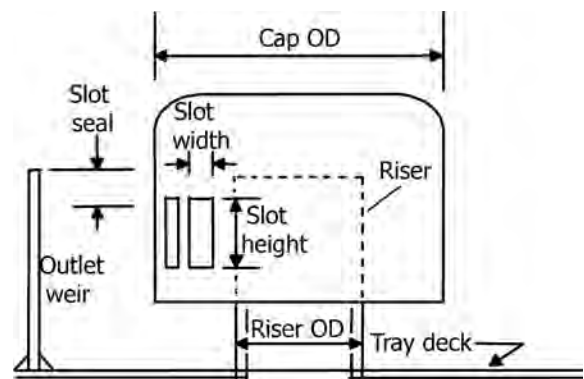

FIGURE 16.3 Typical bubble cap design.
- Figure 16.3 illustrates a typical bubble cap.